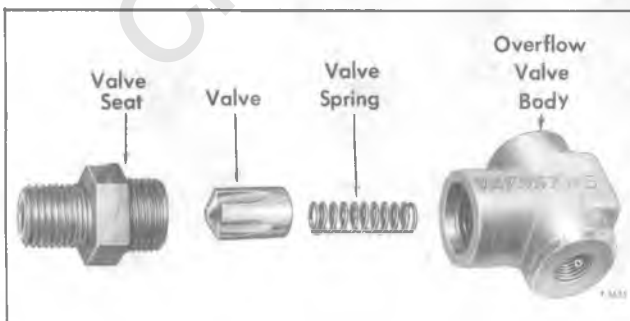

Figure 34—Overflow Valve Components
The overflow valve assembly components of which are shown in figure 34, is installed as shown in figure 6, item 5. Valve assembly is screwed into threads provided in injection pump housing.